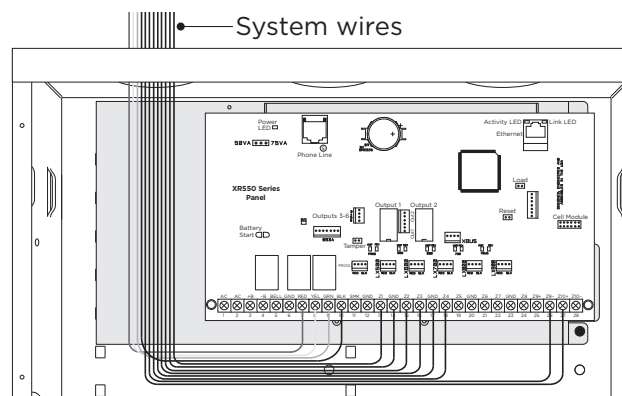

Figure 5: Wire Routing
2. Route all wires to the left of the PCB and connect as needed. See Figure 5.